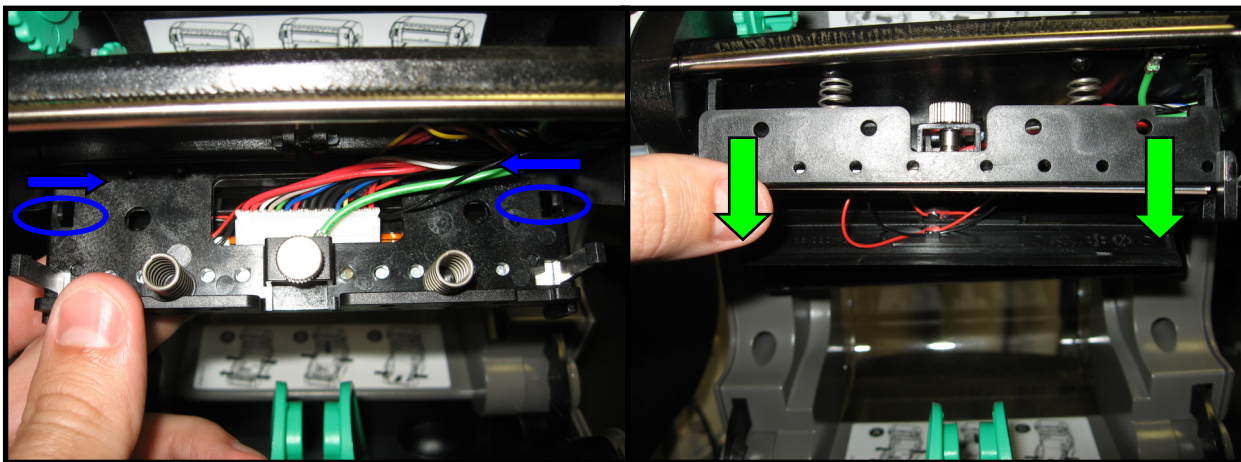

Figure 4
- 4.) Gently push tabs inward to drop the printhead cover (Fig 4)